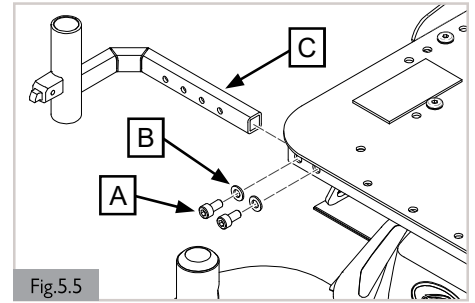
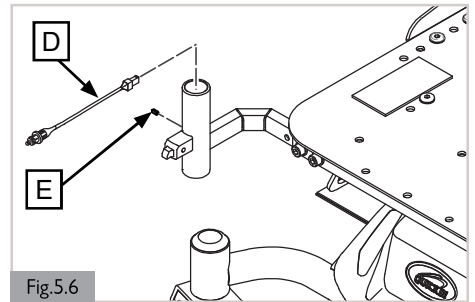

Fig.5.5
Fig.5.6
5.2 Hanger receiver for swing away legrests (Option)**Hanger receiver width adjustment** (Fig. 5.5 and Fig. 5.6)